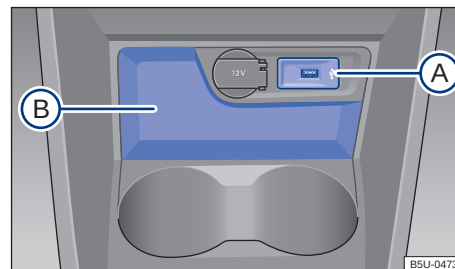

Fig. 94 In the front centre console: stowage compartment.
Open stowage compartment in the front centre console → Fig. 94 (B).